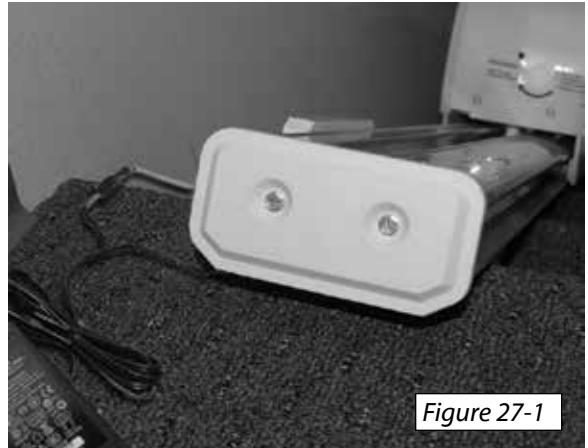

Figure 27-1
1. The power supply has one wire with a connector that mates to a wire on the charge strip at either the top or bottom end of the rail. Plug the power supply into the wire. *[Figure 27-1]*